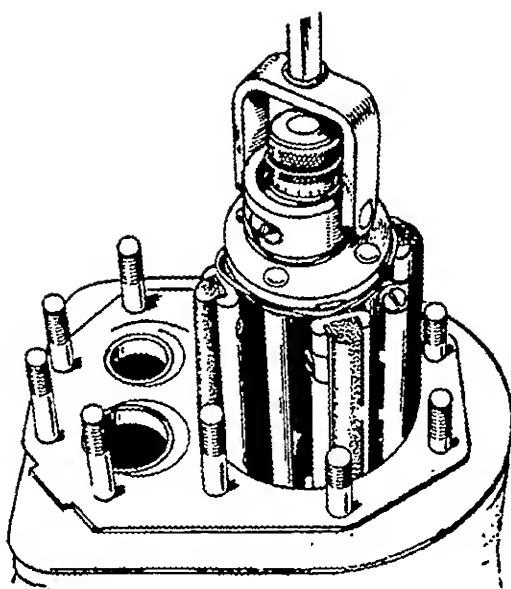

FIGURE 75. HONING CYLINDER
1. A hone can be used to rebore a cylinder, Figure 75. Remove stock to 0.002 inch (0.051 mm) less than finished bore with coarse hone (100 grit), then complete honing with finish hones (300 grit).